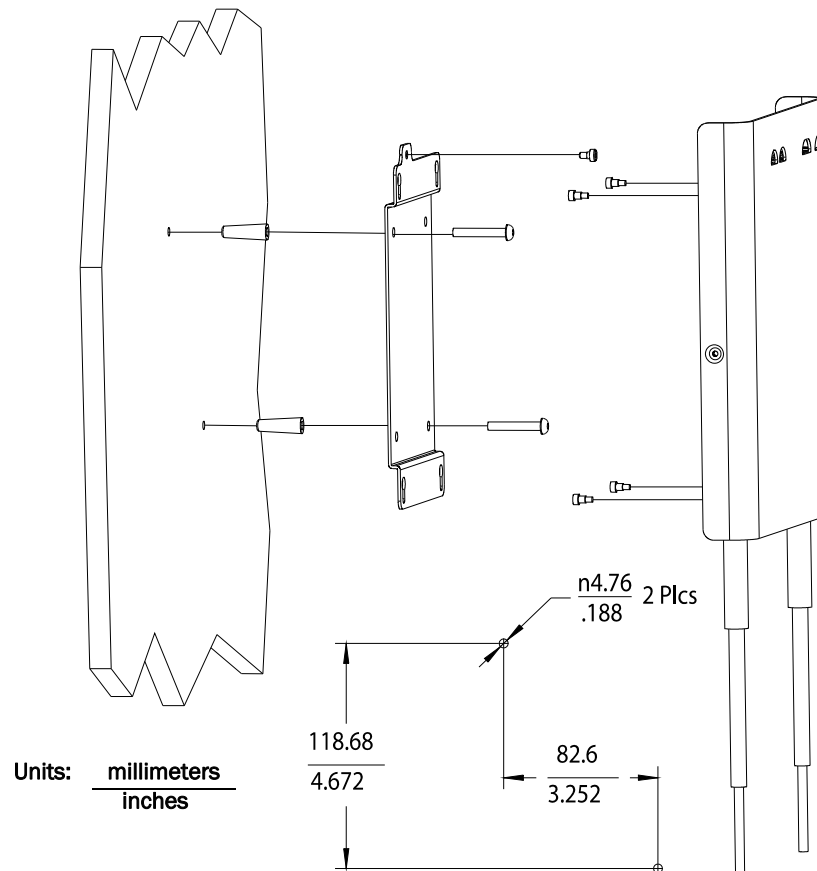

Figure 2-6: Mounting the IntelliVue Smart-hopping 1.4 GHz Core AP to a Wall (CA Earthquake Rated)
1. Using a 3/16-inch drill bit, drill two pilot holes 0.188 inches (5 mm) in diameter at the locations shown in Figure 2-6.
3. Secure the quick release wall plate to the wall by screwing a supplied #6 x 1/4 inch self-tapping screw through the wall plate into each screw anchor (or pilot hole) as shown in Figure 2-6.
4. Using a 5/64-inch (2 mm) Allen (i.e., hexagonal) wrench, secure the four supplied M3 X 0.5 hex-head shoulder screws to the back of the Core AP as shown in Figure 2-6. Torque-tighten each shoulder screw to 8-inch lbs.